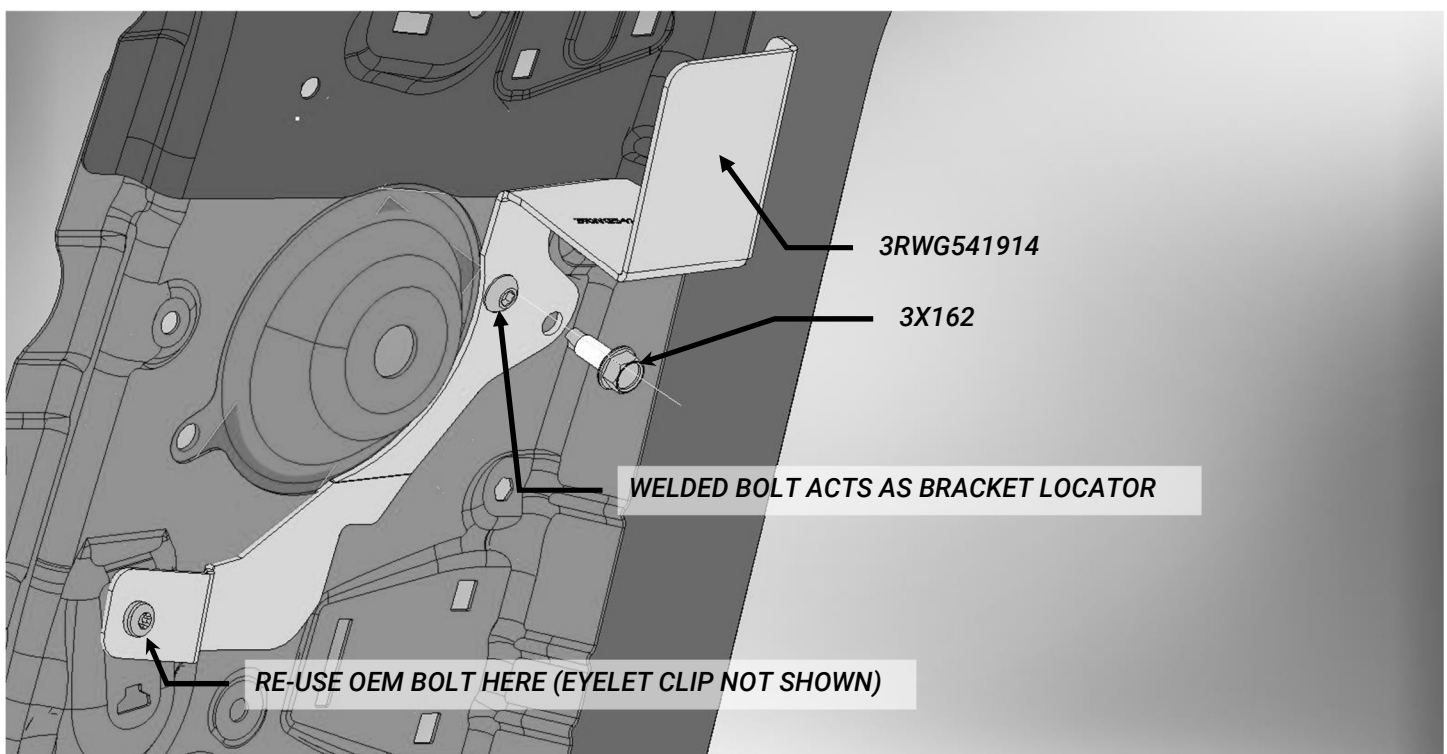

Figure 3
- B. Locate upper bracket [3RWG541914] by inserting threaded locator in seat belt hole feature and re-fasten the eyelet clip over the bracket to secure. (Fig. 3)